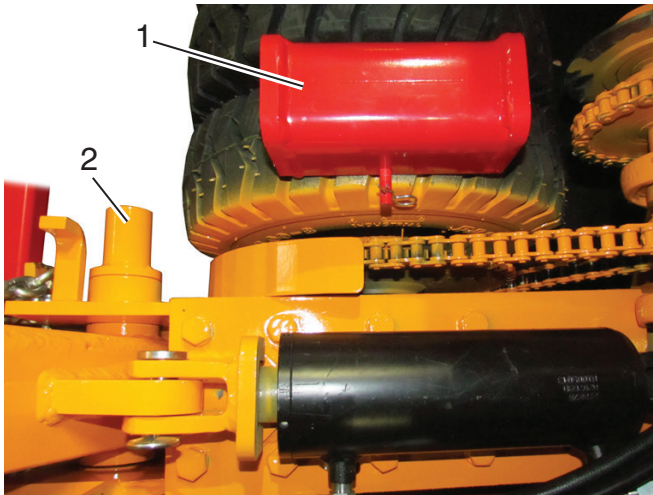

Figure 4-17. Front Pintle Cylinder Lock
5. Place cylinder rod lock onto cylinder rod. Secure with pin and hitch pin. See **Figure 4-17**.